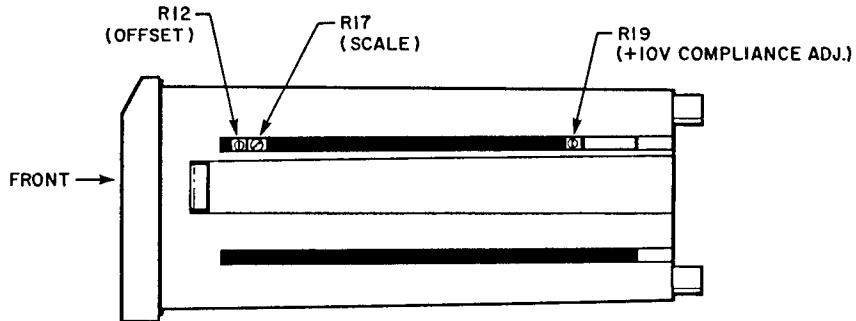

Figure 7. Analog Output Trimpot Positions
2.8.4 10V Compliance (Excitation) Adjustment (refer to Figure 7)
Pin B on the P2 Edge Connector is the sense input for the 10V excitation source. Pin 5 is the +10V excitation source. For proper operation, pin 5 must be tied to pin B at either the transducer or the P2 connector. This output can source up to 90mA. R19 (trimpot, see Figure 7) is the +10V excitation adjustment and has a range of +9Vdc to +11Vdc. Turn R19 clockwise to increase the voltage. This adjustment is not important to the operation of the DAC.
2.8.5 Analog Output Adjustment (refer to Figure 7)